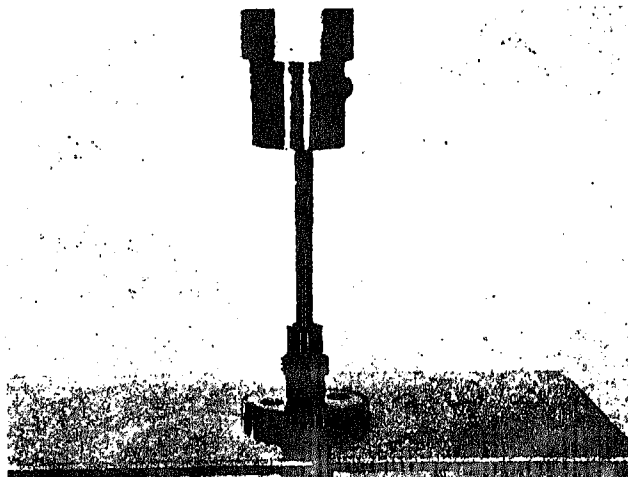

Fig. 506-7 Press tachometer drive gear and governor drive gear
1. Press tachometer drive gear and governor drive gear from drive shaft. Fig. 506-7.
3. Lubricate shaft and bore before pressing tachometer gear on shaft and against governor drive gear. Fig. 506-7.
**Note:** Check gear to make sure it matches with tachometer gear to give proper rotation see Page 5-3-4. Fig. 506-7.